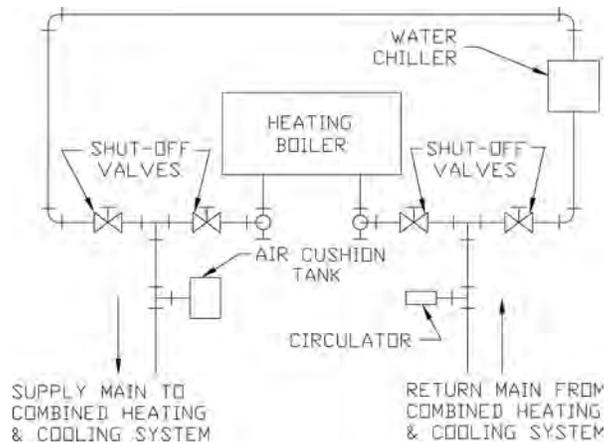

Figure 13: Recommended Piping for Combination Heating & Cooling (Refrigeration) System
- H. If boiler is used in connection with refrigeration systems, boiler must be installed with chilled medium piped in parallel with the heating boiler using appropriate valves to prevent chilled medium from entering boiler. See Figure 13.